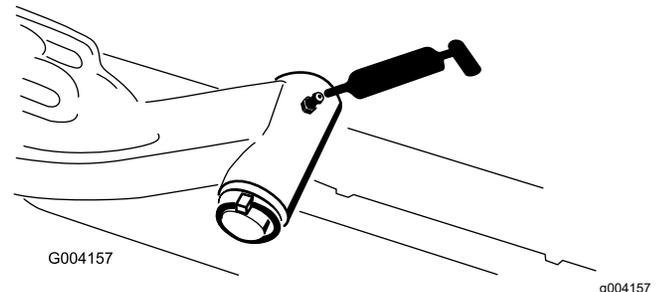

Figure 73
- Lift-arm-pivot shaft (1 each) (Figure 73)